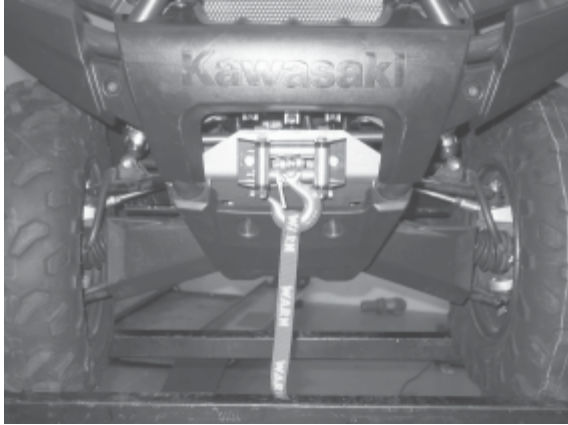

Figure 7 Complete Winch Installation
7. Switch the winch clutch to freespool. Manually feed the winch cable through the roller fairlead. Attach the clevis hook to the end cable loop, Figure 7. Reinstall front skid plate with original hardware from step 1 and securely tighten.